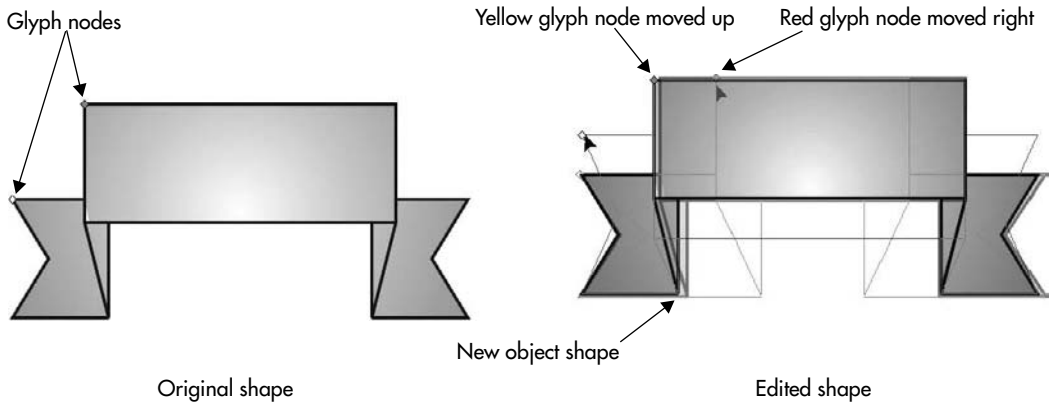

FIGURE 9-12 When movement is vertically constrained, the width of each portion of the banner changes.
5. Click-drag the red glyph node left or right to reposition it several times. Notice its movement is vertically constrained; as it is moved, the horizontal width of each portion of the banner changes to match your movement, as shown in Figure 9-12.